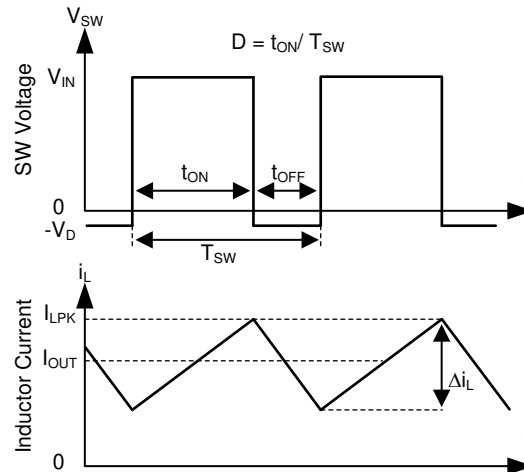

Figure 10-1. SW Node and Inductor Current Waveforms in Continuous Conduction Mode (CCM)
The following operating description of the TPS25846-Q1 will refer to the Functional Block Diagram and the waveforms in Figure 10-1. TPS25846-Q1 is a step-down synchronous buck regulator with integrated high-side (HS) and low-side (LS) switches (synchronous rectifier). The TPS25846-Q1 supplies a regulated output voltage by turning on the HS and LS NMOS switches with controlled duty cycle. During high-side switch ON time, the SW pin voltage swings up to approximately V_{IN} , and the inductor current i_L increase with linear slope $(V_{IN} - V_{OUT}) / L$. When the HS switch is turned off by the control logic, the LS switch is turned on after an anti-shoot-through dead time. Inductor current discharges through the LS switch with a slope of $-V_{OUT} / L$. The control parameter of a buck converter is defined as Duty Cycle $D = t_{ON} / T_{SW}$, where t_{ON} is the high-side switch ON time and T_{SW} is the switching period. The regulator control loop maintains a constant output voltage by adjusting the duty cycle D . In an ideal buck converter, where losses are ignored, D is proportional to the output voltage and inversely proportional to the input voltage: $D = V_{OUT} / V_{IN}$.